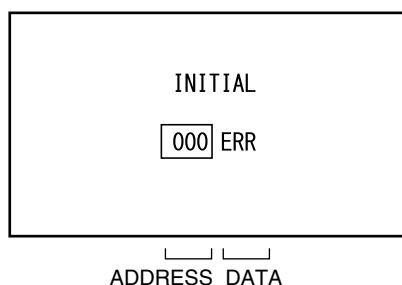

Fig. 1
3. Press both Channel button **(6)** on the remote control and the STOP button on the set for more than 2 seconds. ADDRESS and DATA will appear on TV Monitor as **Fig 1** and the ADDRESS is now selected.